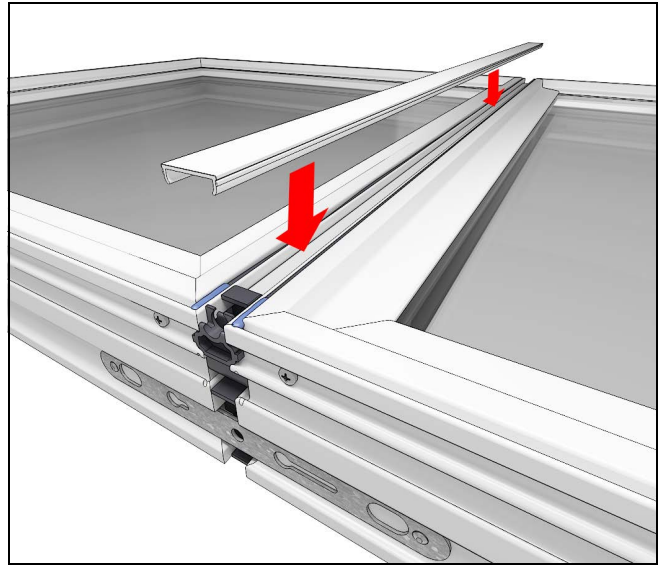

Figure 13
3. Install the exterior mull cover. These should be flush with the interior edge of the accessory kerf to allow for accessory application. You may have to seat the cover with a rubber mallet or wood block and hammer. See Figure 13.